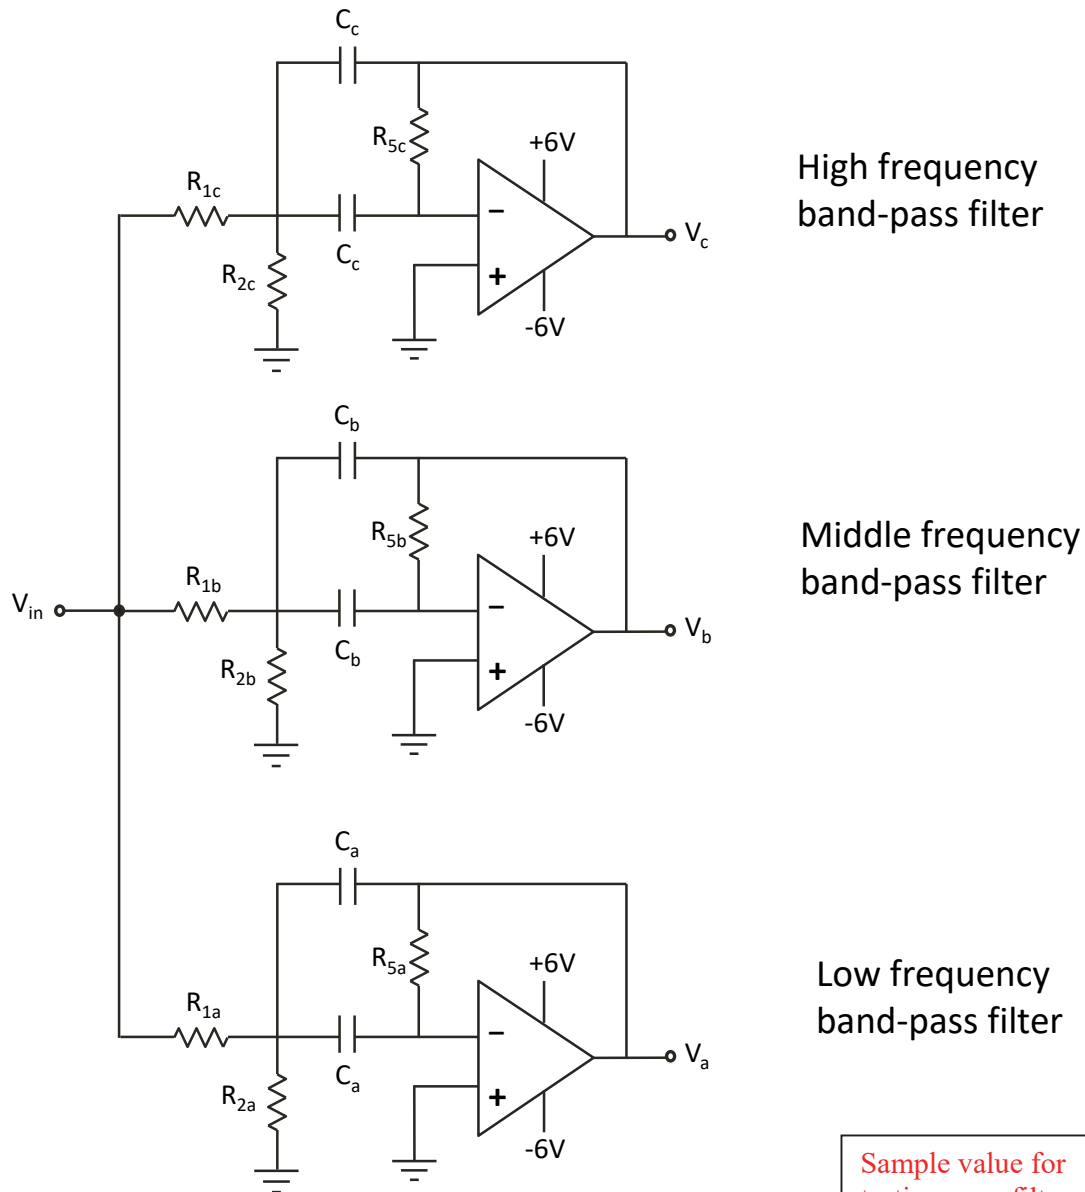
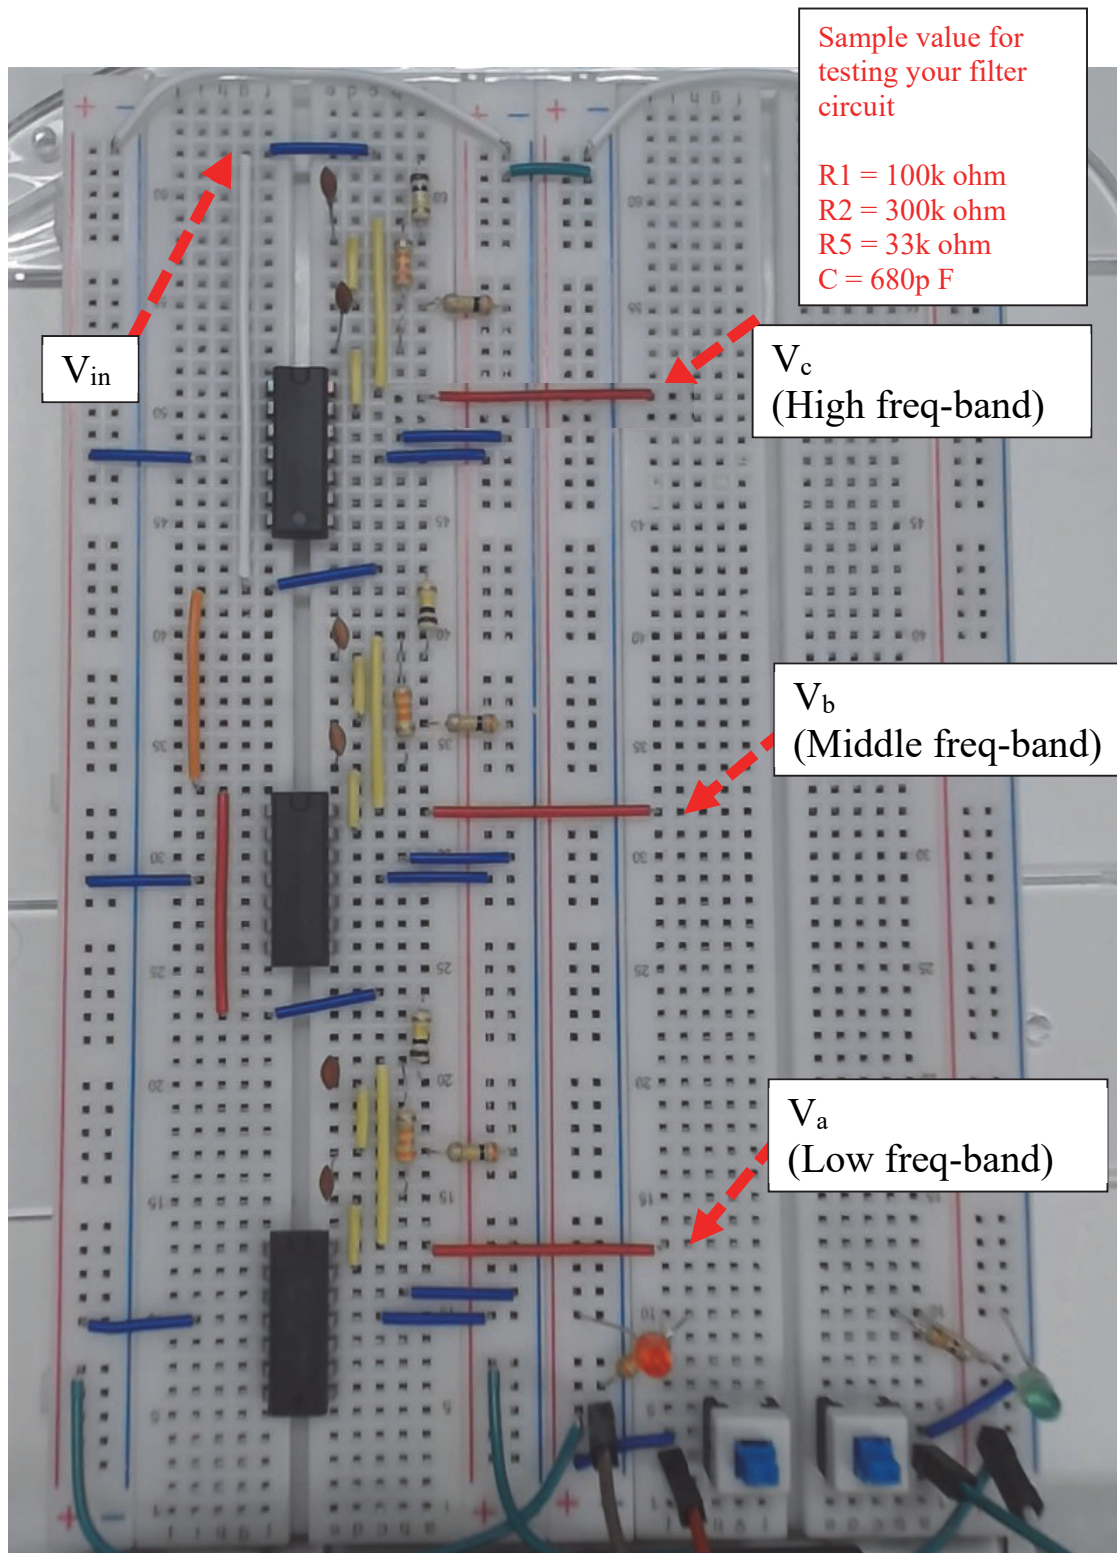

Fig. 19
Fig. 20
5.3.20 Use the value of the R_{1b} , R_{2b} , R_{5b} , C_b for middle frequency band-pass filter and use the value of R_{1c} , R_{2c} , R_{5c} , C_c for low frequency band-pass filter obtained in Lab 5a simulation. Connect the middle and low frequency band-pass filter circuit as shown in Fig. 19, and put all the components on the breadboard as shown in Fig. 20. For simplicity, only one opamp is used in each LM324 for each band-pass filter.